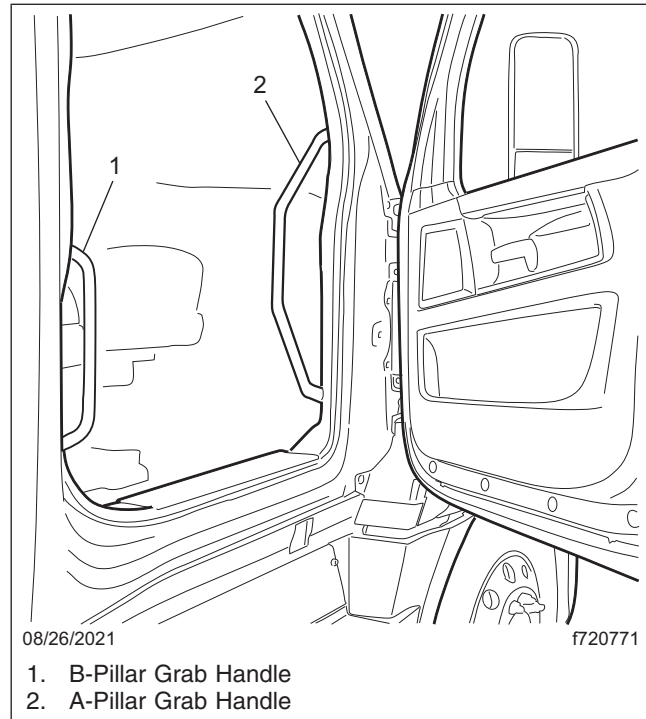

Fig. 2.10, Passenger-Side Cab Access
2. Facing the cab, grasp the B-pillar and A-pillar grab handles with your hands. See Fig. 2.10.
1. Grasp the A-pillar grab handle with both hands, and place your right foot on the top step. See Fig. 2.10.